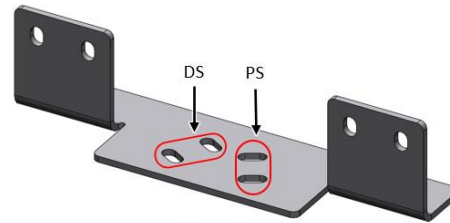
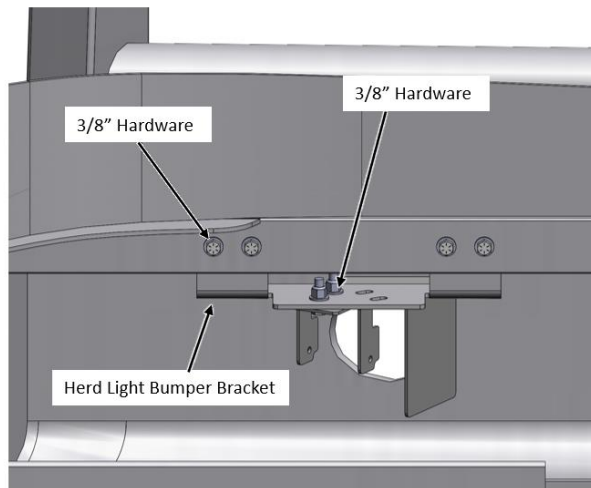

Figure 3b:
Figure 3c:
2. Mount the OEM light – Herd Light Shroud assembly to the Herd Light Bumper Bracket's specific holes as shown in Figure 3b. Fasten loosely using the provided 3/8" hardware, see Figure 3c.